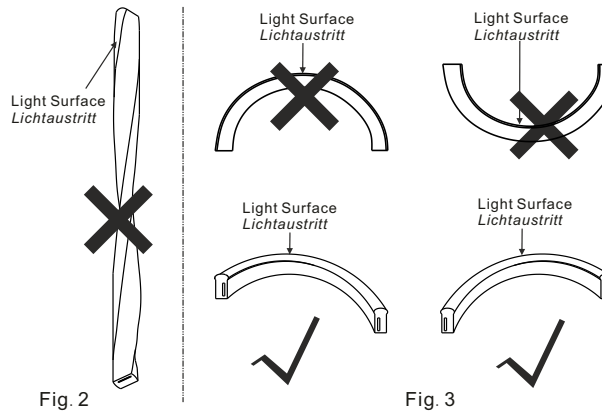

Fig. 4 Hang suspended installation as the picture illustrated is forbidden.
10. Do not hang this flex light in sky as Fig.4. / Nicht in der Luft aufhängen wie in Fig. 4